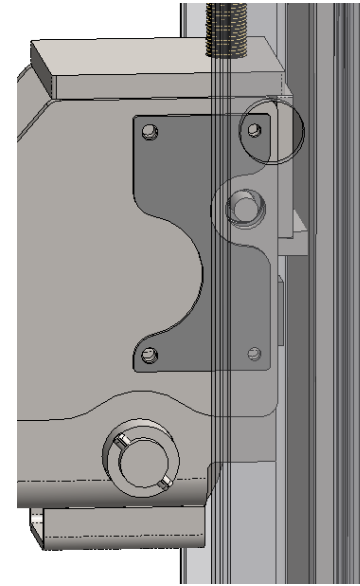

Figure 5
6. Fasten the drilling template to the front plate of the front lift side cross-beam as shown in *Figure 5* using the (2) $\frac{1}{4}$ " tapped holes furthest away from the post.